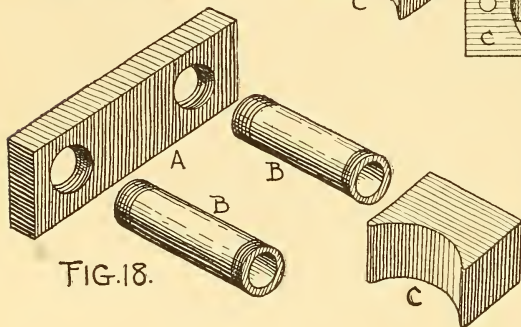

FIG. 18.
For a larger dynamo the yoke should be made six inches long, one inch thick, and two inches and a half wide. The cores should be of one-inch iron pipe. These will be hollow, as shown at B B in Fig. 18. For the ends cast-iron blocks must be made or cast from a pattern two inches and three-quarters square and four inches high, as shown at C. The yoke (A) and the lugs (C) are bored and threaded to receive the one-inch pipe, and when set up this will constitute an iron field-magnet six inches wide, two inches thick, and nine inches high. This, if properly wound, should develop a quarter of a horse-power.